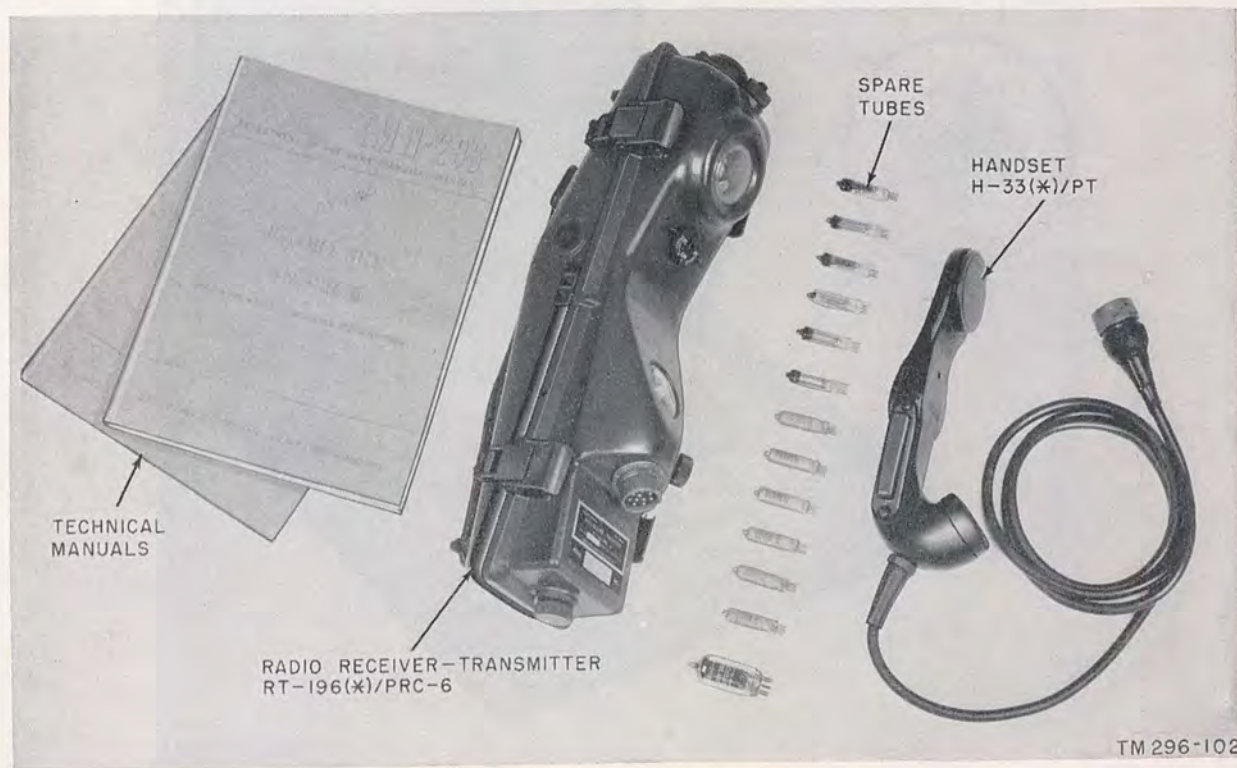

Figure 5. Radio Set AN/PRC-6, components.
6. Table of Components for Radio Set AN/PRC-6 (fig. 5)